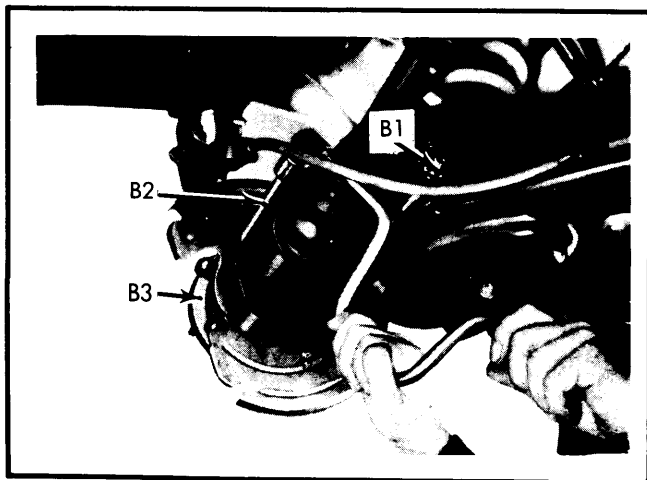

Fig. 1 Removing Front Axle Assembly
4) To remove axle, complete with hub and bearing support, work from rear (See Fig. 1) and use two bolts and plate (special tools B1, B2 and B3 of tool set 8.0521). With plate installed between hub and bearing support, insert the two bolts, as illustrated, and alternately tighten both bolts until axle assembly is pressed free of lower control arm.